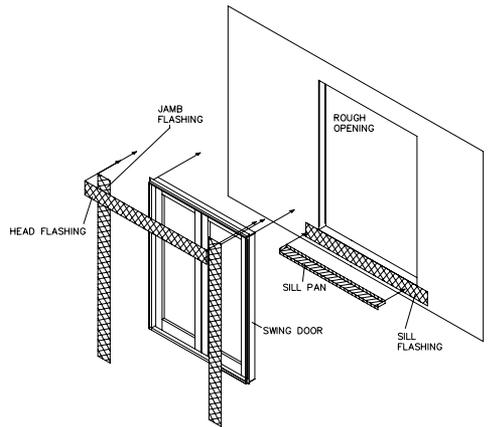

Figure 1
3. An overview of the proper flashing sequence is shown in Figure 1.